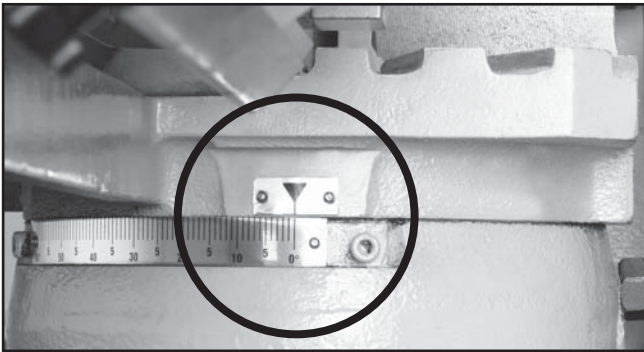

Figure 48. Bow and headstock moved to zero.
3. Raise the bow, move and lock the headstock to zero (**Figure 48**), then lower the bow.